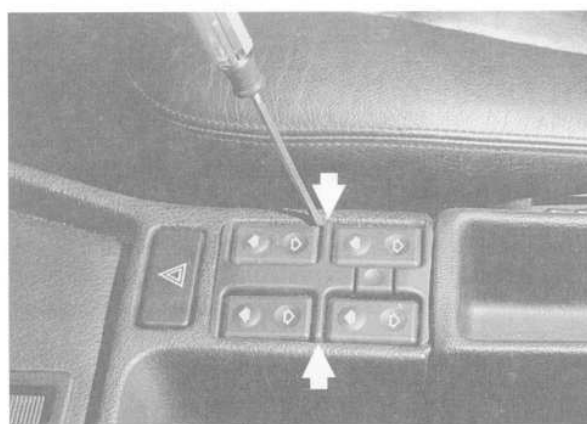

Fig. 7. Window switch being removed from center console. Pry switch alternately at left and right sides (**arrows**) to remove.
1. Pry switch from console by carefully prying at left and right sides. See Fig. 7.